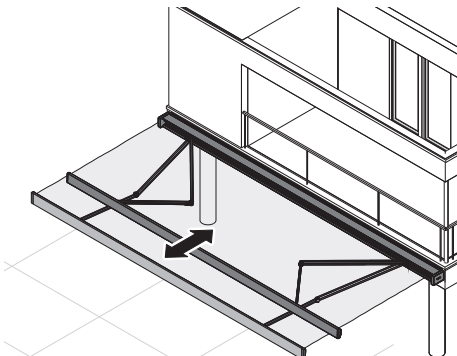

Fig. 19: Moving the fabric panel
2. Insert the manual crank in the incline adjustment slot (fig. 19).